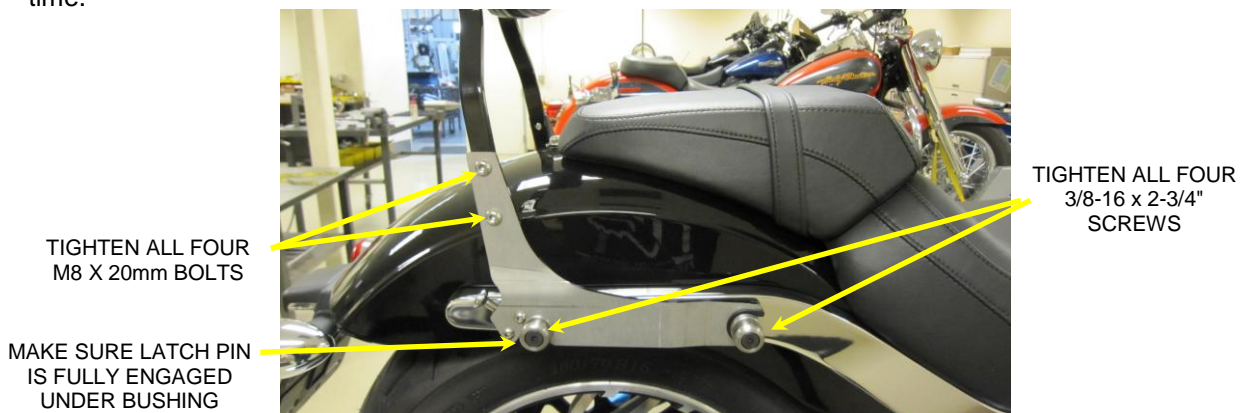

FIGURE 5
9. Pull backward on both detachable latch knobs and then push downward on the backrest to allow the backrest to sit completely on the rear mounting bushings. Then release the detachable latch knob to fully engage the latch pin underneath the mounting kit bushing. See **FIGURE 5**.
10. Always check to make sure both detachable latch pins are fully engaged on the bottom of the mounting kit bushing. Failure to fully engage the detachable latch pin could cause the backrest to come loose while riding. See **FIGURE 5**.
11. Pull backward on the top of the sissy bar and then tighten all four M8 X 16mm bolts. See **FIGURE 5**.
12. **TIGHTEN**, the 3/8"-16 x 2-3/4" front and rear mounting bushing screws fully to Harley original torque specifications for fender rail screws. Verify, Loctite was used on all (4) 3/8" screws.